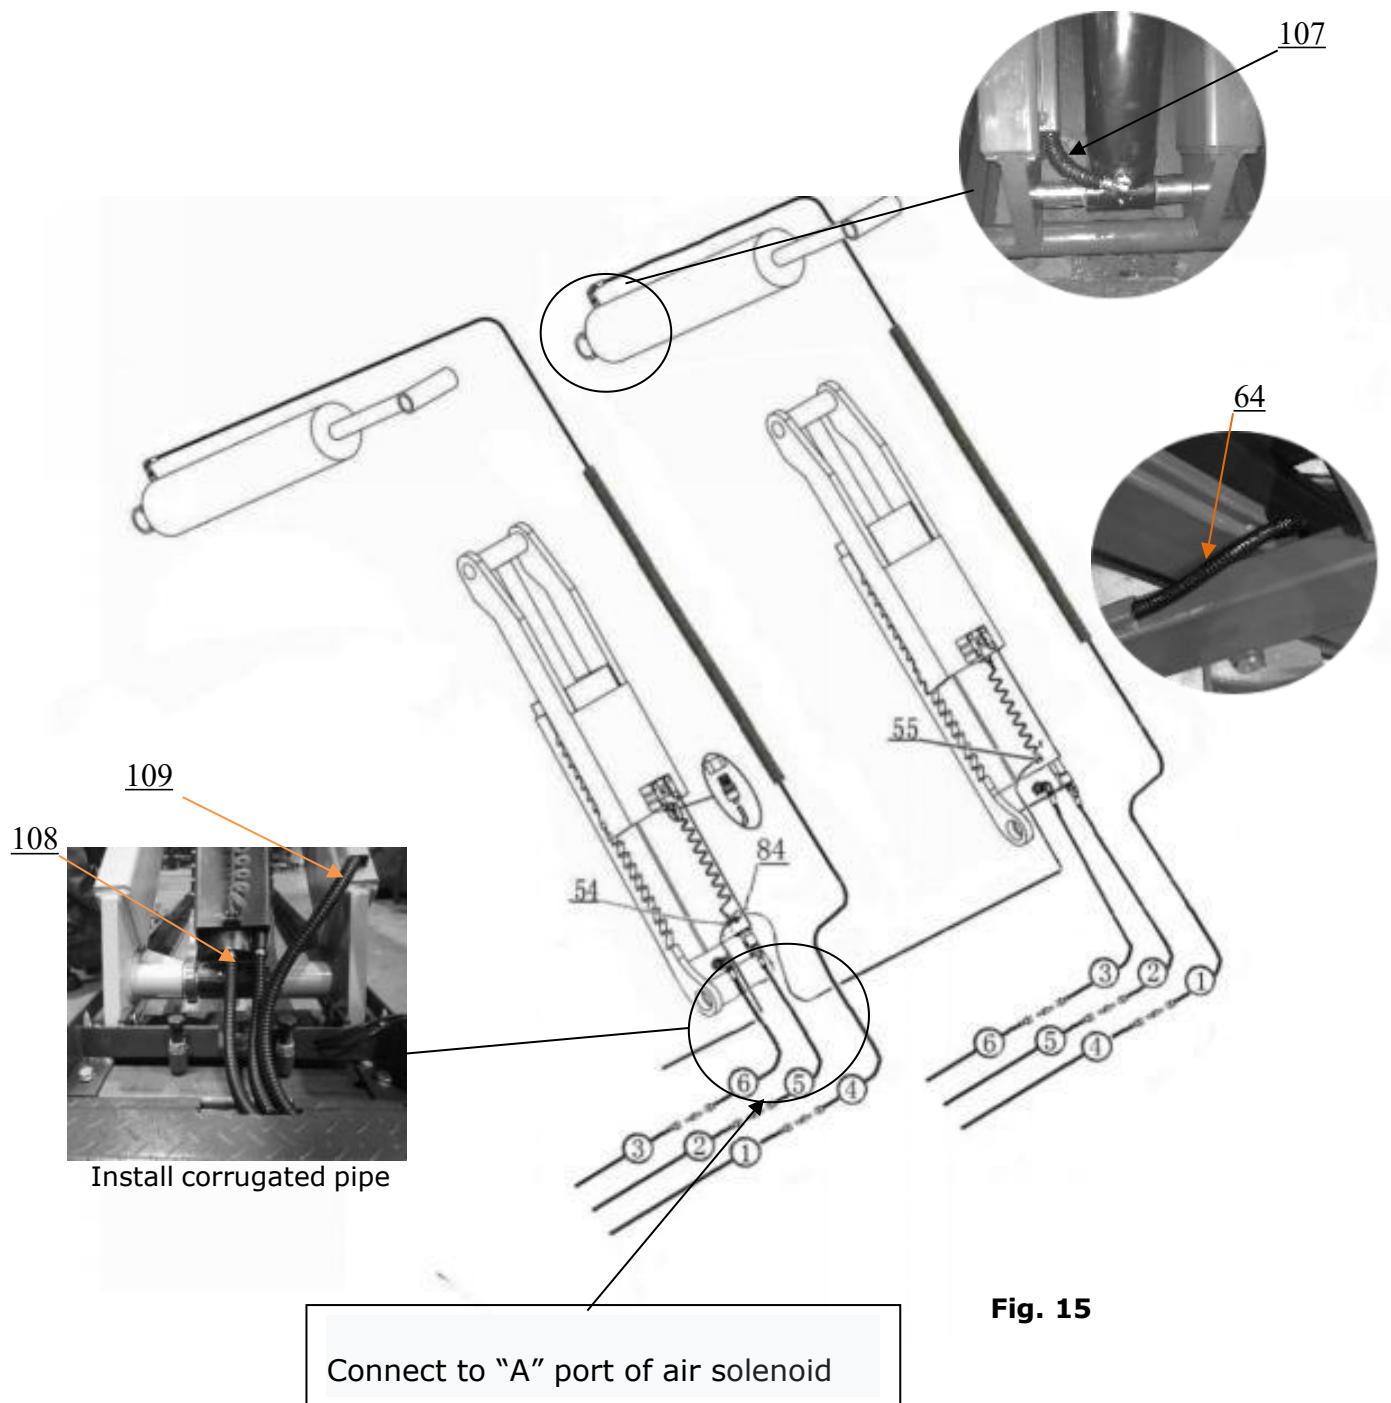

Fig. 15
2.2 Control cabinet installed in the right of the car in direction (See Fig. 15).